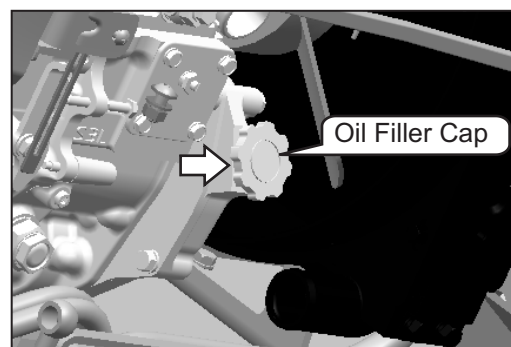

Fig. 5.3c
2. Fill the engine oil with the specified engine oil to the specified level to sump capacity from oil filler cap (fig. 5.3c & 5.3d).